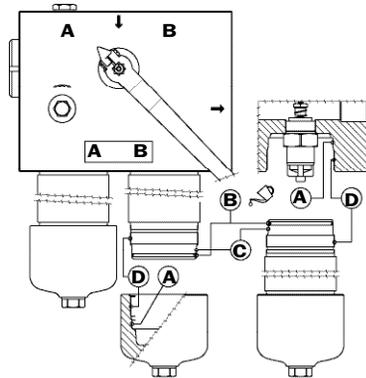

Fig. 4
- 4** To avoid damaging the components check the cover threads (version P01) or the housing threads (version P02) and the seals thoroughly; check also the housing threads (version P01) or the head threads (version P02). Check the condition of the seals - when changing the seals lubricate the new seals with operating fluid prior to installation (see fig. 4).